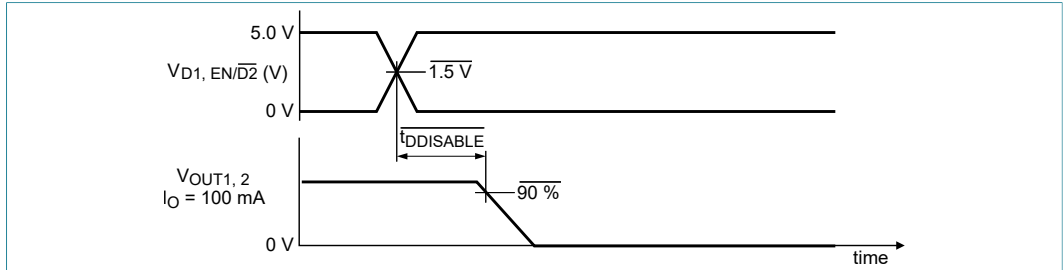

Figure 6. Disable delay time
- [7] Disable delay time measurement is defined in Figure 6.